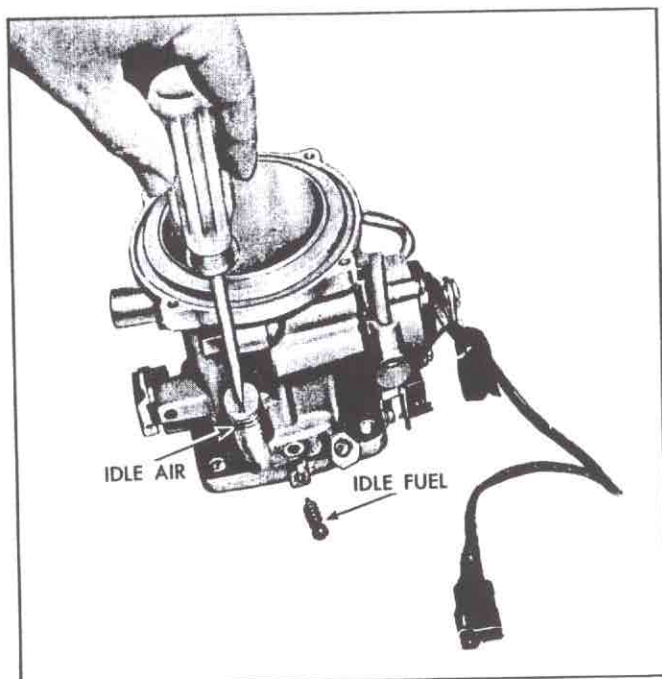

Fig. 160—Installing Idle Fuel and Idle Air Adjusting Screws
6. Install idle air and idle fuel adjusting screws and springs (fig. 160), and back-off two turns as an initial adjustment. This completes assembly of air meter.